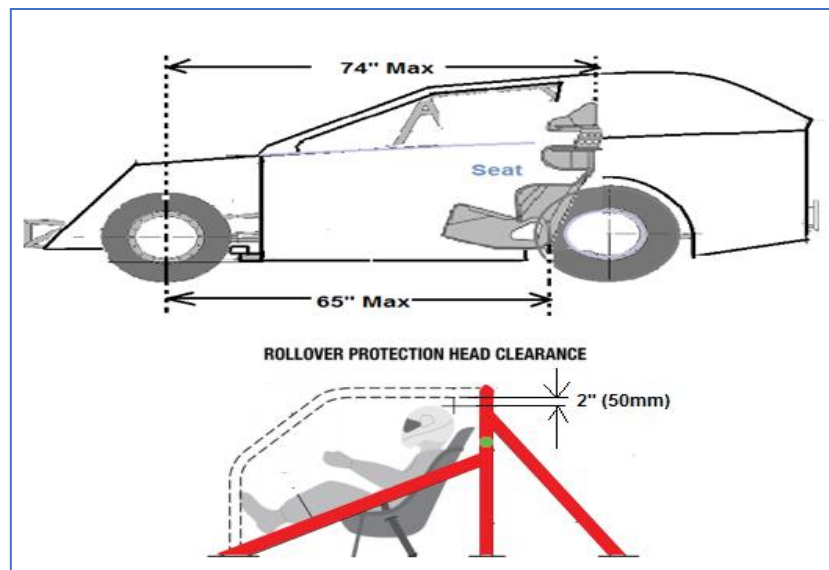

Figure 14
20.7 Bottom rear of seat must not be positioned more than 65 inch rearward, measured from the centre of either of the front spindles (*Figure 14*).
20.8 Seat may be tilted back for added driver head clearance; however, no portion of the seat may be set back more than 74 inches measured from the centre of either front spindle (*Figure 14*).
20.9. The minimum helmet clearance inside the roll cage is to be 50mm from all roll bars (No tolerance) . Measurement is taken from the underside of the overhead roll cage bars to the top of the helmet with the driver seated and in full harness (*Figure 14*).